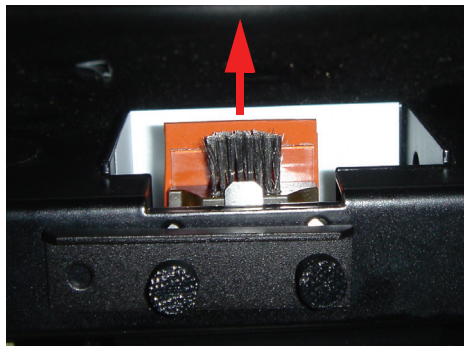

Figure 16: Replacing the Brush/Flicker Assembly
(Refer to Figure 16 on page 47).
3. Remove the Brush/Flicker Assembly by lifting the assembly up and out of the machine. Discard the old Brush/Flicker Assembly (Figure 16).